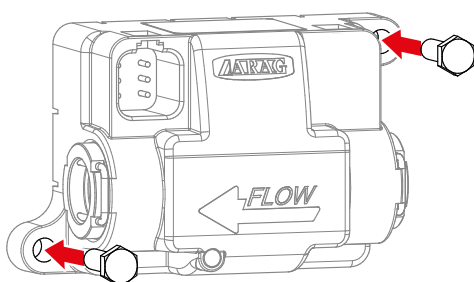

Fig. 6
- Secure the flowmeter by means of 2 M6 (or 1/4 UN) screws, using the fastening points integrated in the body (Fig. 6).